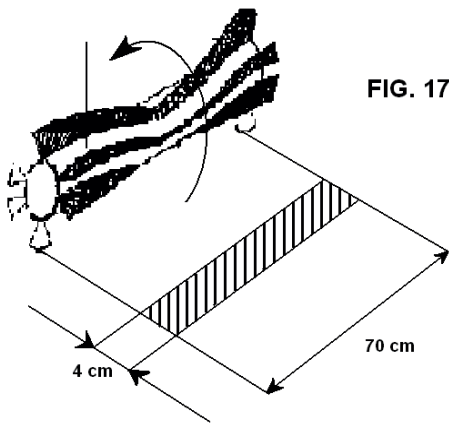

FIG. 17
- Turn off the engine, raise the central brush and move the machine forwards manually until the mark left on the floor by the rotation of central brush is visible, as shown in **Fig. 17**.
4. Pull out the central brush **Part. 15 Tab. 1** and proceed to replace this being careful to ensure the brush bristles are in the right direction as shown in **Fig. 17**. Ensure the drive notches of the two brushes supports **Part. 4 and 24** (see **Tab. 1**) are inserted in the brush housing **Part. 15 Tab. 1**.